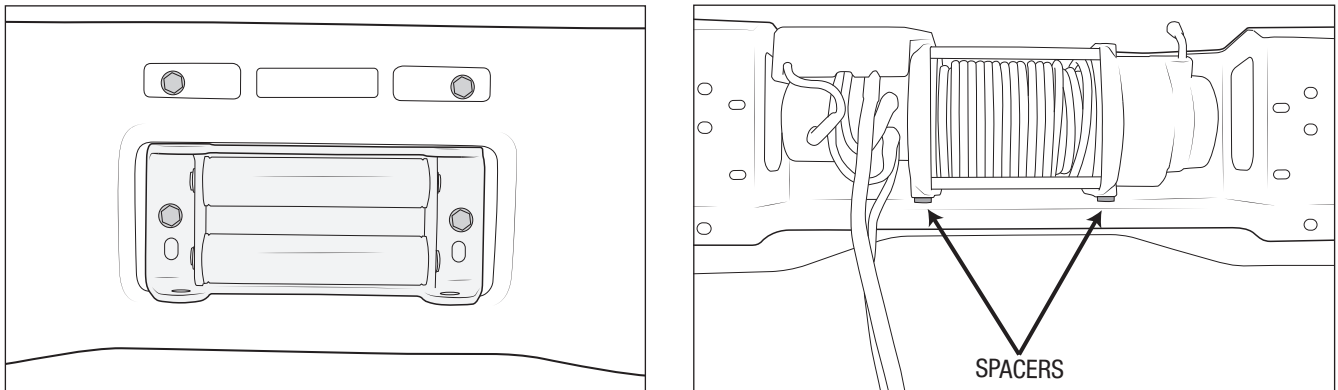

Figure 8
8. If installing a Warn 16.5 winch, install the winch fairlead using the fasteners provided with the winch. Torque as instructed by the winch manufacturer. Use the AEV provided spacers between the winch and the bumper (fig. 8). NOTE: For Warn M12000 or M15000 winches see Appendix A.